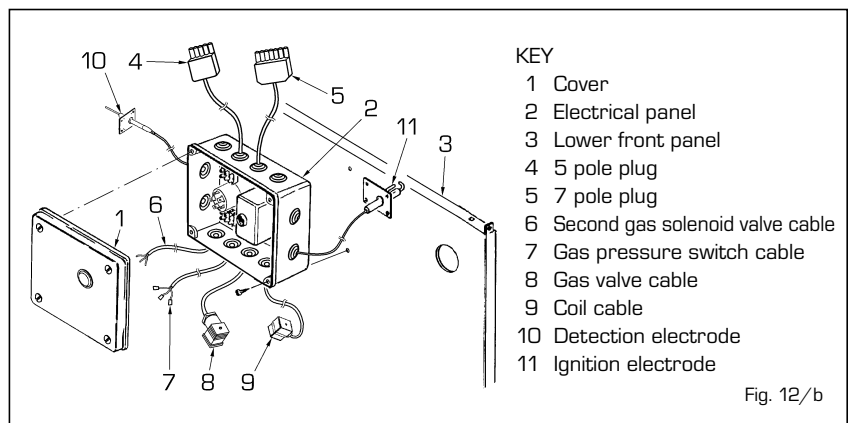

Fig. 12/b
2.14 ASSEMBLING THE ELECTRICAL PANEL (fig. 12/b)